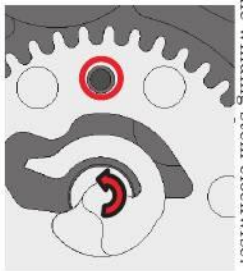

Fig.45
- ◆ After setting the Date driving wheel, place the hole on the marked point on the calendar plate (indicated by  in the Fig. 45 below) by turning the winding stem clockwise.